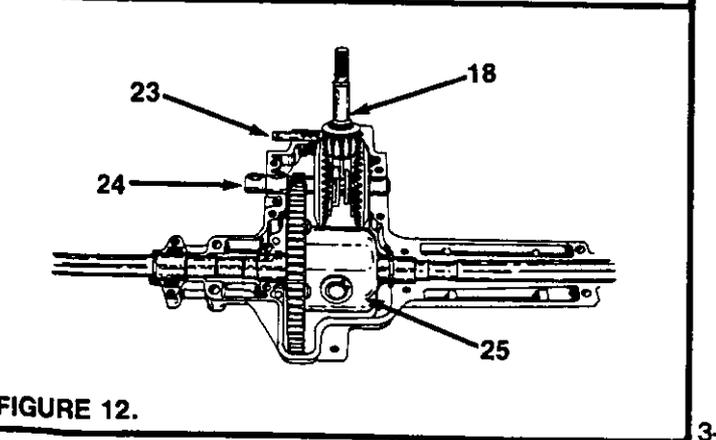

FIGURE 12.
8. Figure 12 illustrates internal parts, less the grease.
10. Lift the input shaft out first. See figures 12 and 13.